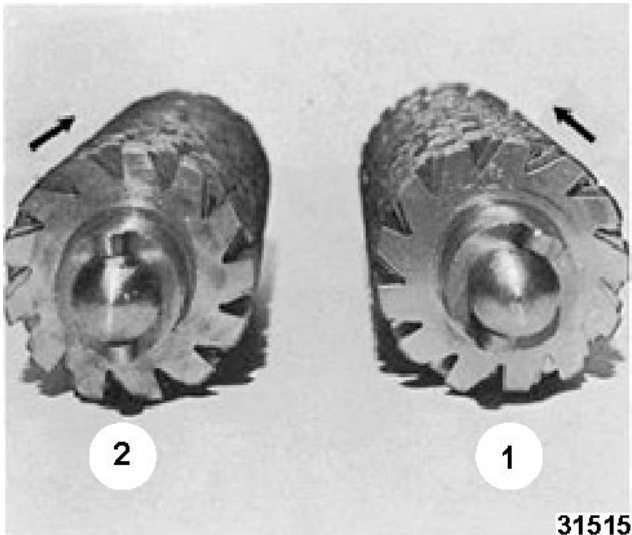

Fig. 15
1. The direction of the cutting edges of the blades is from the outside to the center (Fig. 15).
2. The front roller assembly (1, Fig. 15) has the cutting edges of the blades following a counterclockwise direction.
3. The back roller assembly (2, Fig. 15) has the cutting edges of the blades following a clockwise direction.